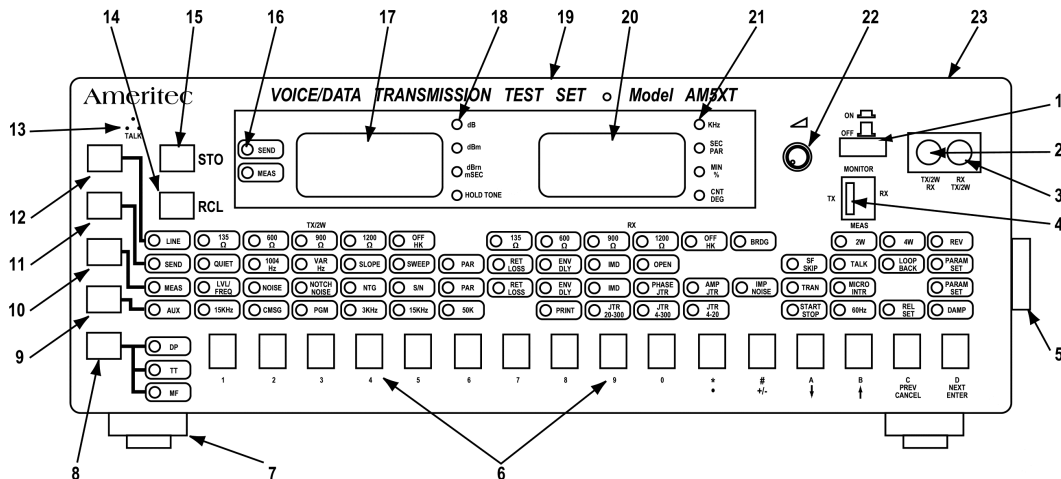

Figure 3-1. Front Panel Components
The Front Panel of the AM5XT is illustrated in Figure 3-1. See ¶3.4 for descriptions of the components called out.
- For example, press [SEND] key (item 11 in Figure 3-1); SEND LED lights. Then press [7]. Return Loss send function is enabled (RET LOSS LED lights). Then, repeatedly press [7] to step through the three (3) Return Loss send DATA DISPLAYS.
- When [D] is pressed with either SEND or MEAS row enabled, the PARAM SET LED (green) lights, and the PARAMETER DISPLAY(S) appear, if present. If there is no PARAMETER DISPLAY for the function enabled, the PARAM SET LED does not light. When a PARAM SET LED is on, the 16 keys along the bottom edge are used to set parameter values.
- When Dialing Mode (DP, TT, MF) is enabled (using item 8 in Figure 3-1), pressing a key along the bottom edge causes the respective digit to be dialed (outputted).
The numbering of the descriptions below corresponds to the numbering of the components in Figure 3-1.